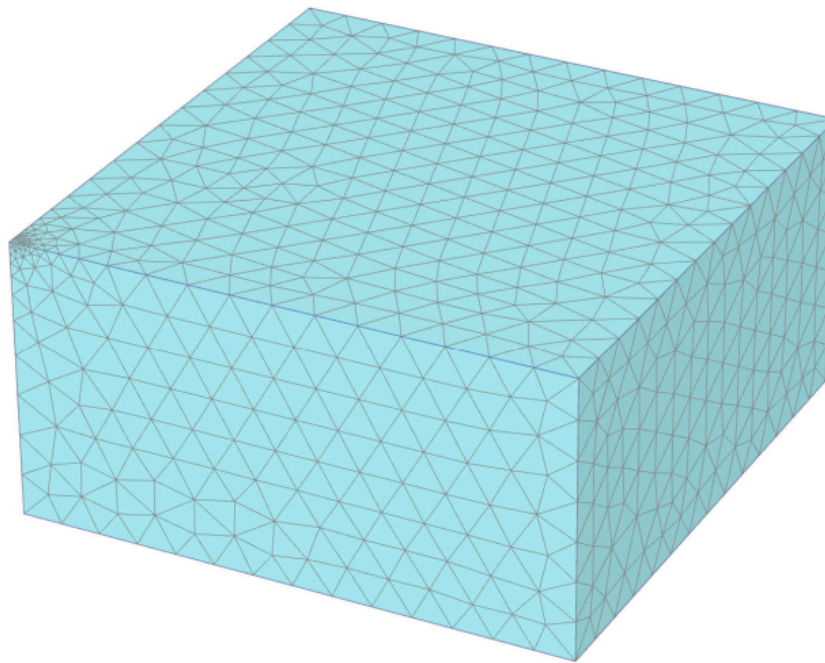

Figure 128: The generated mesh
4.  View the generated mesh (See Figure 128 (on page 155)).